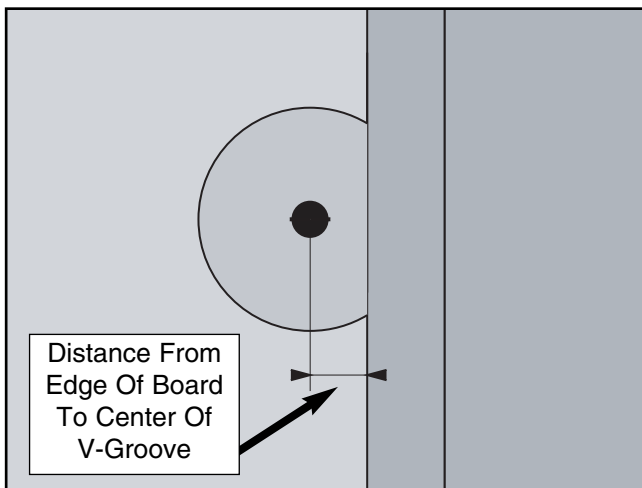

Figure 21. Groove cutting setup.
5. Adjust the main fence until the center of the V-groove bit is the desired distance away as shown in **Figure 21 & 22**.